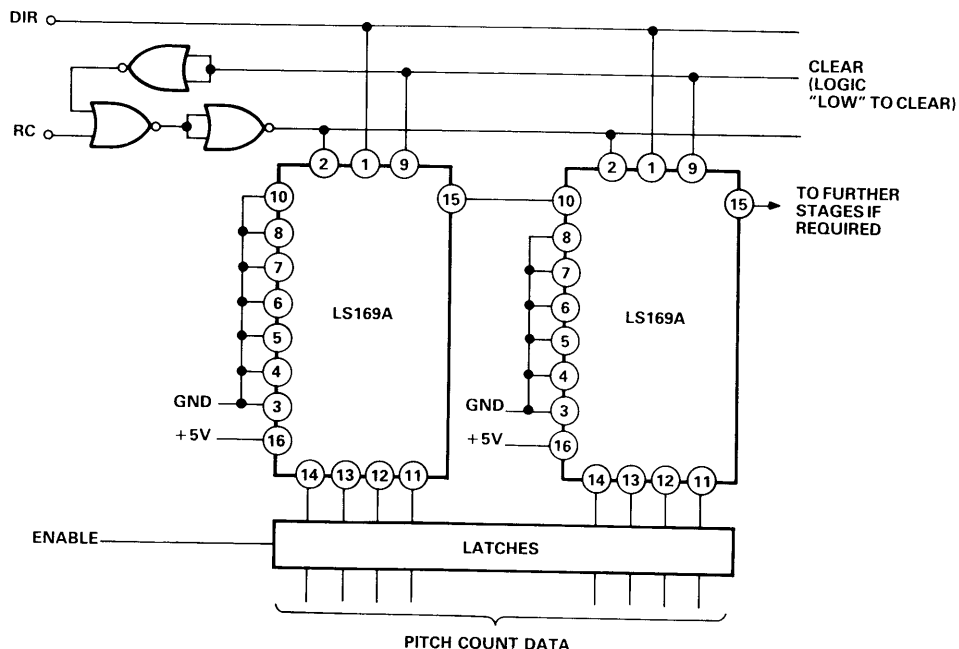

Figure 5. Circuit for Counting Pitches or Revolutions
Applications requiring pitch or revolution counts of the resolver can be easily done using external counters and gates. The input revolutions can be counted by using the RIPPLE CLOCK (RC) and DIRECTION (DIR) logic outputs provided on the AD2S80A/AD2S81A. Figure 5 shows the application circuit that can be used to perform this counting function.
To transfer the data into output latches on the converter, it is recommended in the data sheet that the INHIBIT input should be used. The data is valid 1 μ s after the application of a logic "low" to the INHIBIT. Hence the output latches used in Figure 5 should be enabled 1 μ s after the application of a logic "low" to the INHIBIT input. This will ensure that if an active BUSY pulse is present when the INHIBIT is applied it is given time to clear.